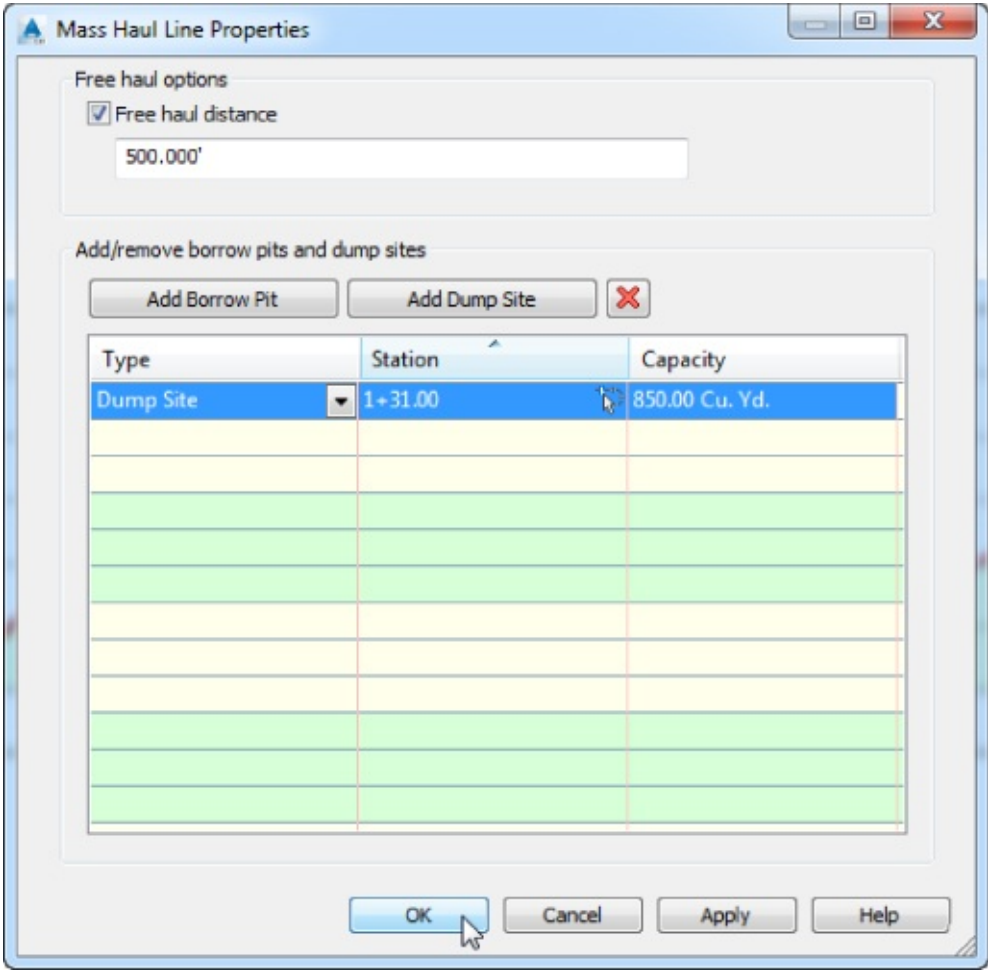

Figure 12.29 The Mass Haul Line Properties dialog: adding a dump site
7. When your dialog resembles Figure 12.29, click OK.